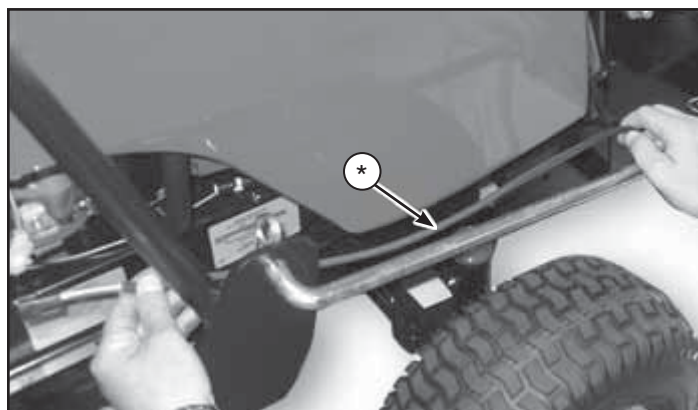

Figure 27
- Route chute rotation wire harness (*, Figure 27) along the frame rail.